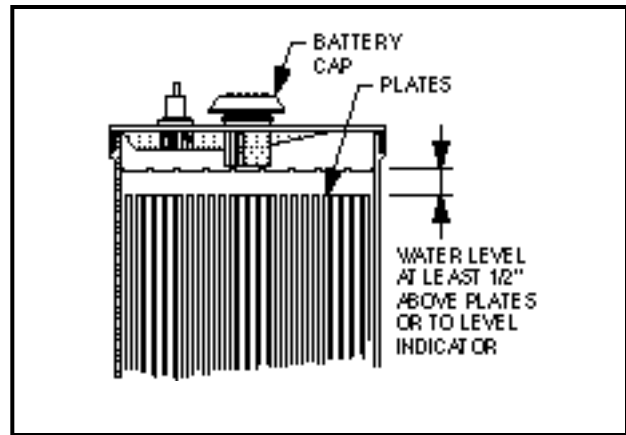

Figure 22
2. The water level in the batteries should be checked weekly (**See Figure 22, Page 25, for proper level**). Add water only after charging unless the water level is below the top of the plates. In this case, add just enough water to cover the plates, charge and then check the level again. Never charge batteries if plates are exposed above water level. For best battery life, add only distilled water.